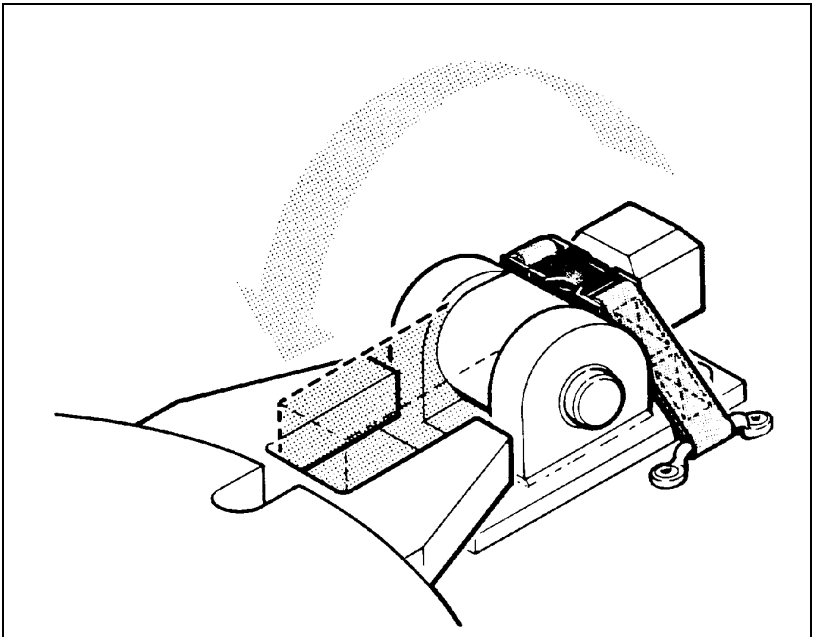

Fig 6-2-12 Turntable Locking Paw
- h. lock the turntable in place (Fig 6-2-12) by unfastening the locking pawl tie down strap and flipping the locking pawl into the turntable slot.